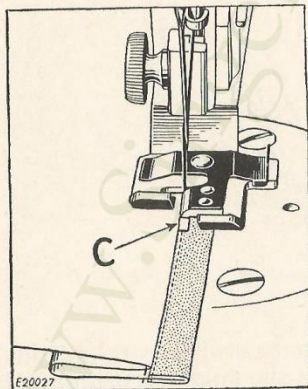

FIG. 249. INVISIBLE HEM WITH BIAS BINDING BEING BLIND STITCHED
- d—Now turn hem toward right side of garment, exposing binding, as shown in Fig. 249, to allow sufficient stitching margin.